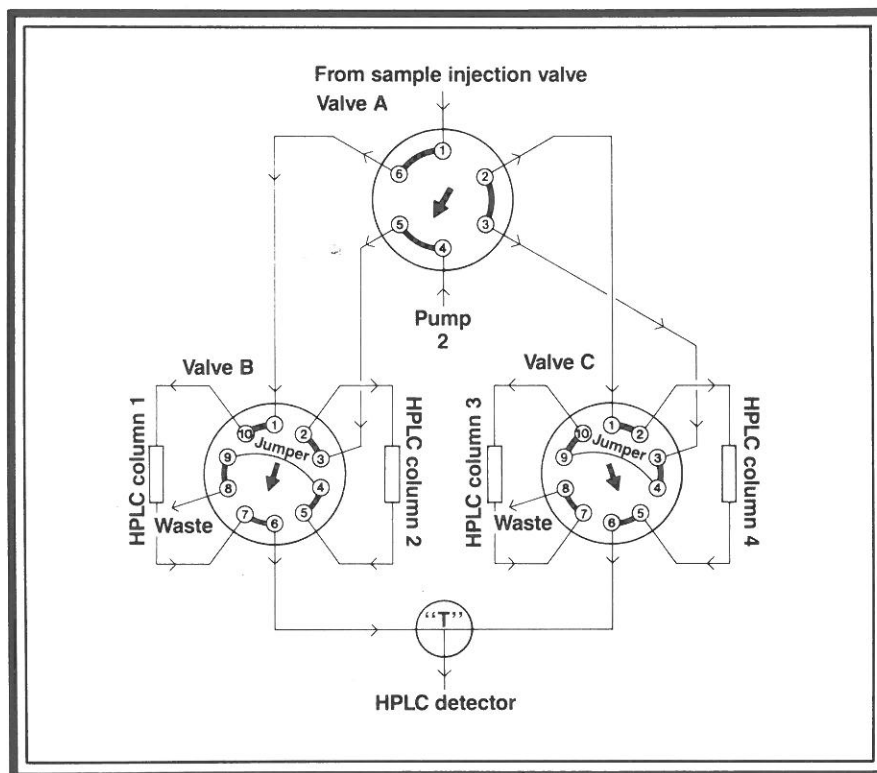

FIGURE 4: The selection and regeneration of four HPLC columns using a 6-port and two 10-port valves.
Figure 4 illustrates a system that provides automated 4-column selection with the ability to regenerate one column with another mobile phase during analysis. A 6-port valve is used to select either of the two 10-port column selection valves and also to direct the second mobile phase to the unused column on the selected 10-port valve. The two W valves and the T contribute 2.5  $\mu$ l extracolumn volume to the system (this does not include the connecting tubing volume). The order of events for 4-column selection and regeneration follows:
- The 6-port valve is put into the A position (Figure 4). The injected sample goes from the external injection valve to the 6-port valve to the 10-port valve B (which is in its A position as shown in Figure 4). The B valve directs the injected sample to HPLC column 1. HPLC column 1 is connected to the T and the HPLC detector. During the analysis, pump 2 sends mobile phase 2 to the 6-port valve. The 6-port valve directs mobile phase 2 to HPLC column 2 mounted on B valve. Mobile phase 2 regenerates column 2 and goes to waste.